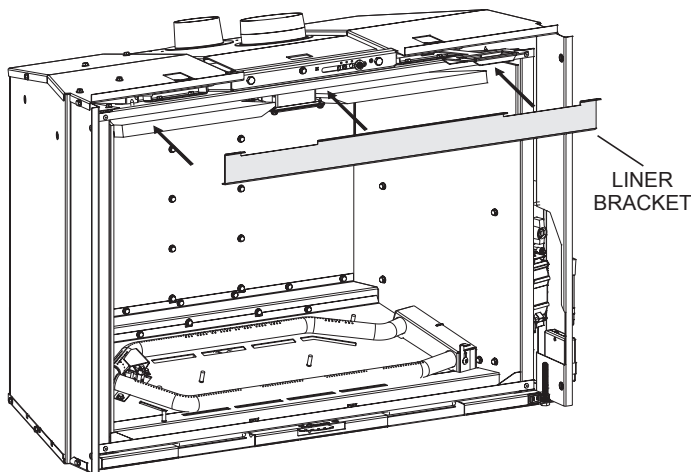

Figure 5
6. While holding ceramic fiber top liner, place liner bracket in position as shown. Insert three screws where shown. See Figures 5 and 6.